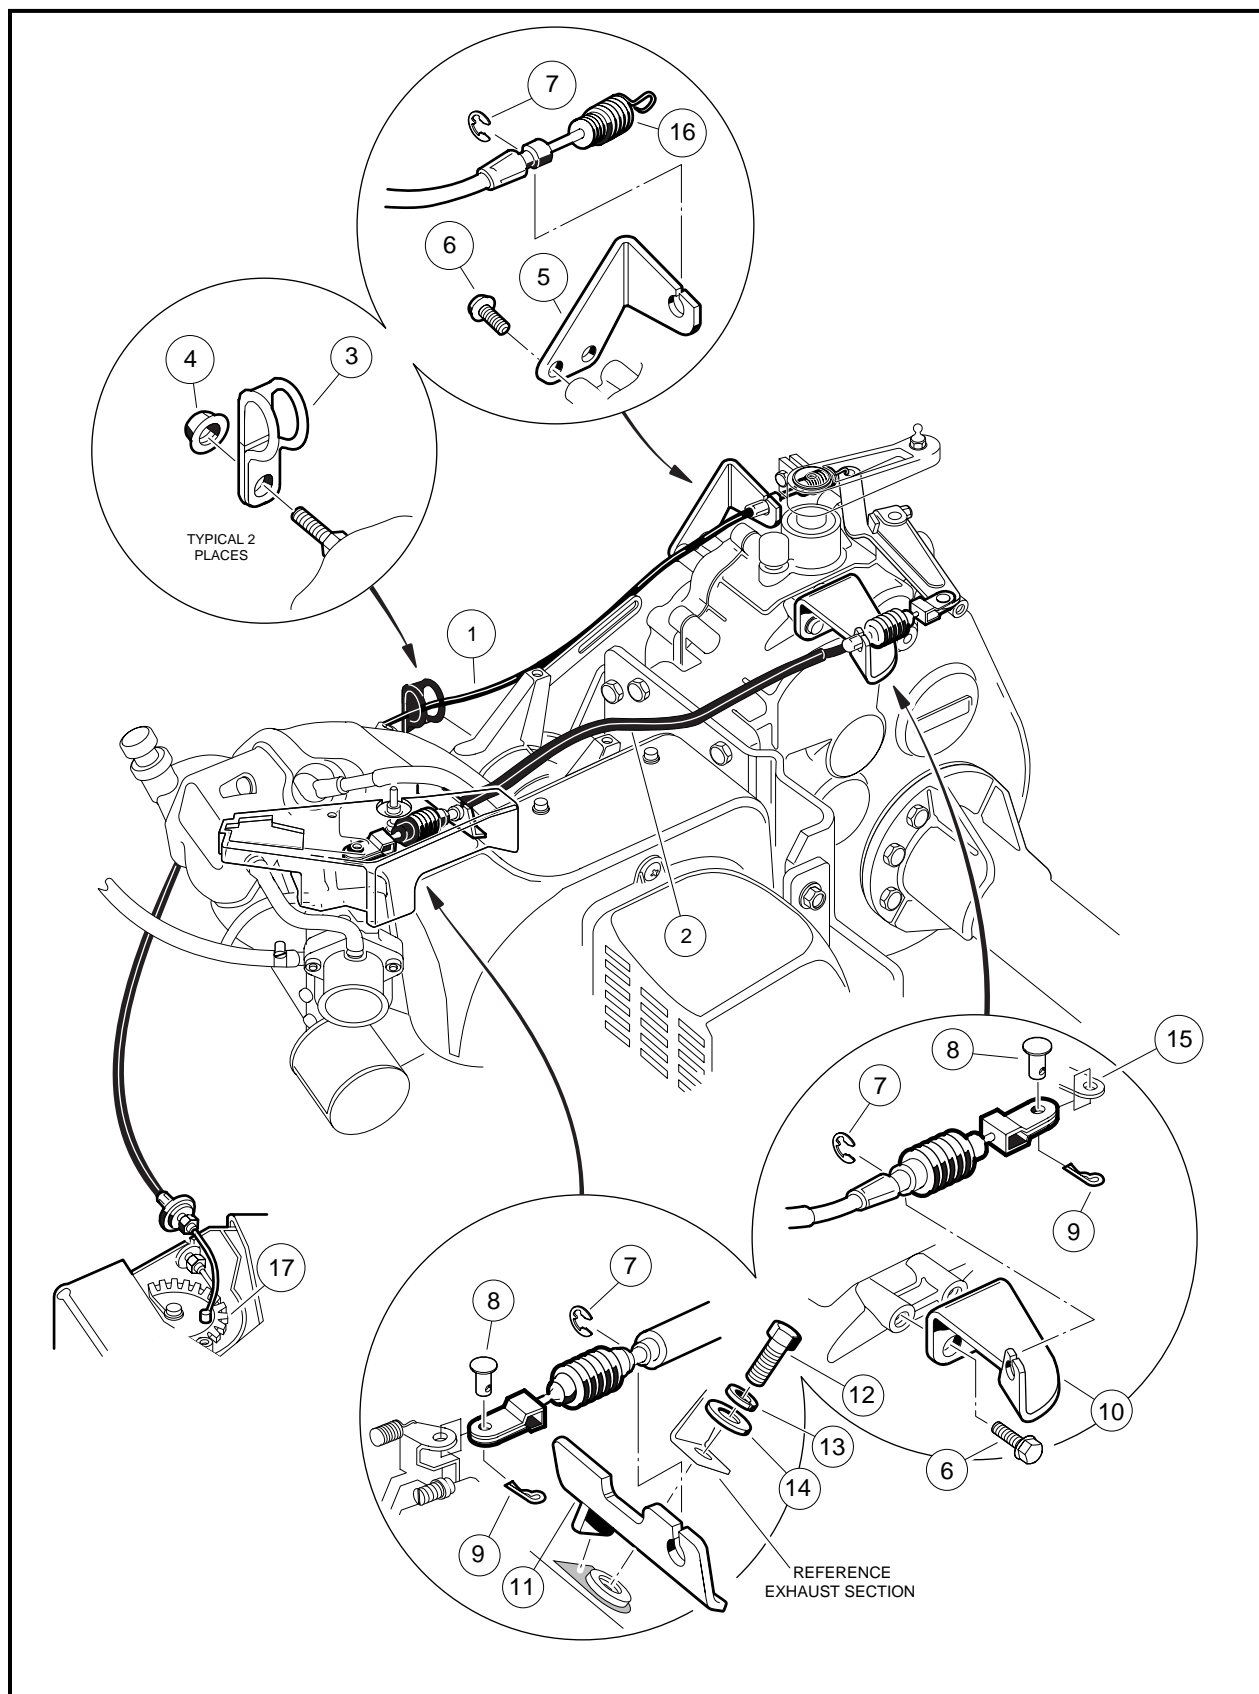

Figure 14-12 Governor and Accelerator Cables
4. Remove the E-ring (7) at the governor cable engine bracket (11), and governor cable support bracket (10) **(Figure 14-12, Page 14-12)**.
5. Remove the cotter pin (9) and clevis pin (8) from the governor lever arm (15) **(Figure 14-12, Page 14-12)**.
6. Remove the cable (2) **(Figure 14-12, Page 14-12)**.
1. Install the cable onto the governor cable support bracket (10) and the engine bracket (11) and attach an E-ring (7) at each end **(Figure 14-12, Page 14-12)**.
3. Install the clevis pin (8) and cotter pin (9) through the clevis and carburetor throttle at the carburetor **(Figure 14-12, Page 14-12)**.
4. Install the clevis pin (8) and cotter pin (9) through the rear clevis and governor lever arm.
3. Disconnect cable (1) (**Figure 14-12, Page 14-12**) from cam in the electrical box.
4. Remove the E-ring (7) on the spring end of the cable at the accelerator cable bracket (5) (**Figure 14-12, Page 14-12**). Pull the cable housing out of the bracket.
5. Disconnect the spring (16) from the engine governor arm by rotating the arm counterclockwise one-half turn. Remove the cable assembly from the vehicle (**Figure 14-12, Page 14-12**).
3. Connect the spring (16) to the engine governor arm (**Figure 14-12, Page 14-12**).
4. Install cable in accelerator cable bracket(s) and secure it with E-ring (7) (**Figure 14-12, Page 14-12**).
5. Push the cable dust shield onto the spring end of the cable conduit (**Figure 14-12, Page 14-12**).